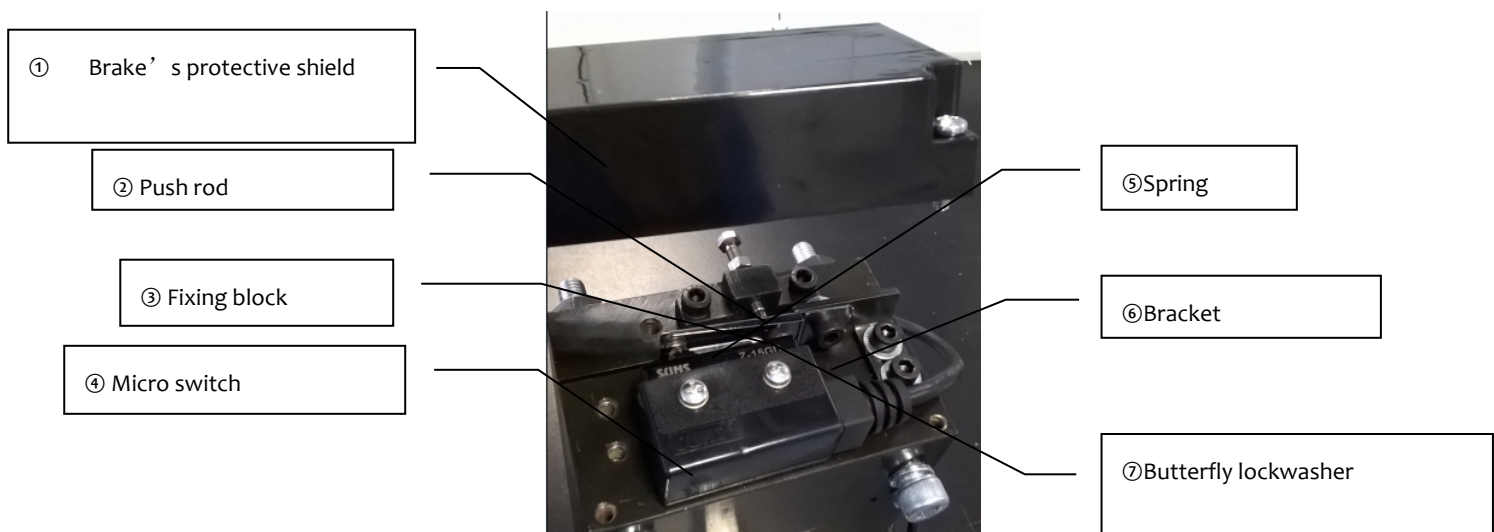

Fig.28 Components of push rod mechanism
The brake's push rod mechanism is comprised of protective cover①, push rod②, fixing block③, micro switch④, spring⑤, bracket⑥, and butterfly lockwasher⑦, as shown in Fig. 28 on P20. After the bracket with micro switches and spring has been fixed, the reliable operation of the micro switch is ensured, by adjusting the push rod's position to change the rod's travel.